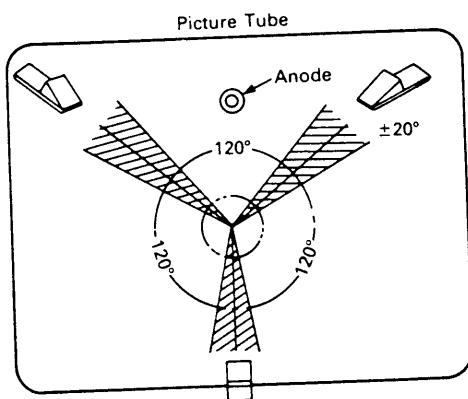
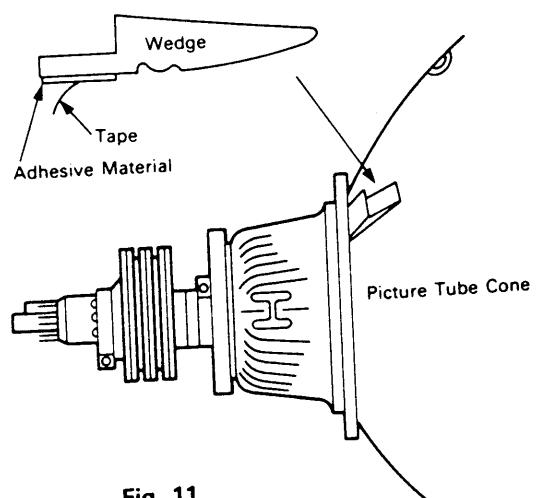

Fig. 10.
Fig. 11.
- (4) Push the three rubber wedges between the picture tube cone and the deflection yoke at the positions indicated in Fig. 10.
- (5) Observe the entire screen and make sure convergence adjustment is complete. If necessary, change the positions of the wedges and repeat steps (1) and (2) above.
- (6) After the position of the wedges have been decided, gently turn up the end of the wedge and strip the tape from the rear of the end to expose the adhesive material, then adhere to the picture tube cone. (Fig. 11)